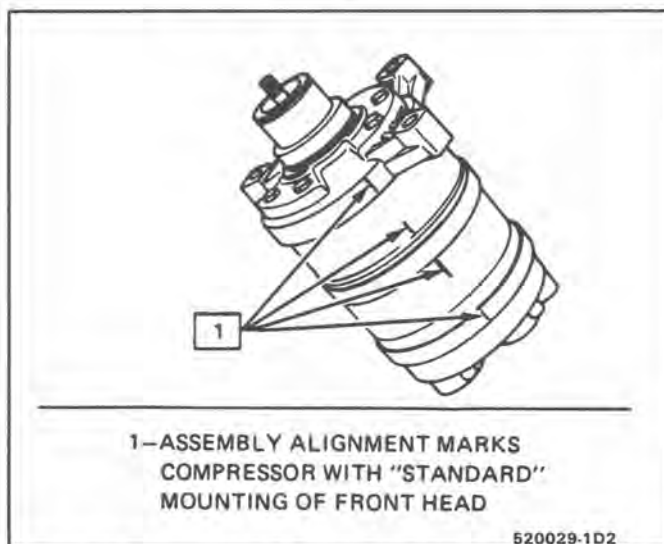

Fig. 28 Compressor Cylinders and Heads Alignment
4. Install the new seal retainer ring with its flat side against the seal, using snap-ring pliers J-5403 (Fig. 28). Use the sleeve from seal remover-installer J-9393-A to press in on the seal retainer ring so that it snaps into its groove.
rotated 120° clockwise or 120° counterclockwise from "Standard" position (Fig. 28).
4. Mark the location and note the alignment of the front head to the alignment marks on the cylinder. This is important for reassembly. Depending on application mounting, the front head may be rotated 120° clockwise or 120° counterclockwise from the "standard" position (Fig. 28).
5. Remove the six (6) compressor through bolts and gaskets. Discard the gaskets.
6. Line up mark on front head (Step 4 of Remove) with the alignment marks on the compressor cylinder and assemble head over guide pins (Fig. 28).